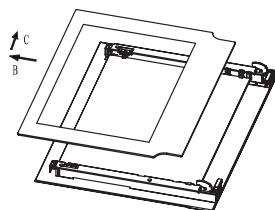

Fig.2
2. Saque lentamente el cristal interior (Fig.2)